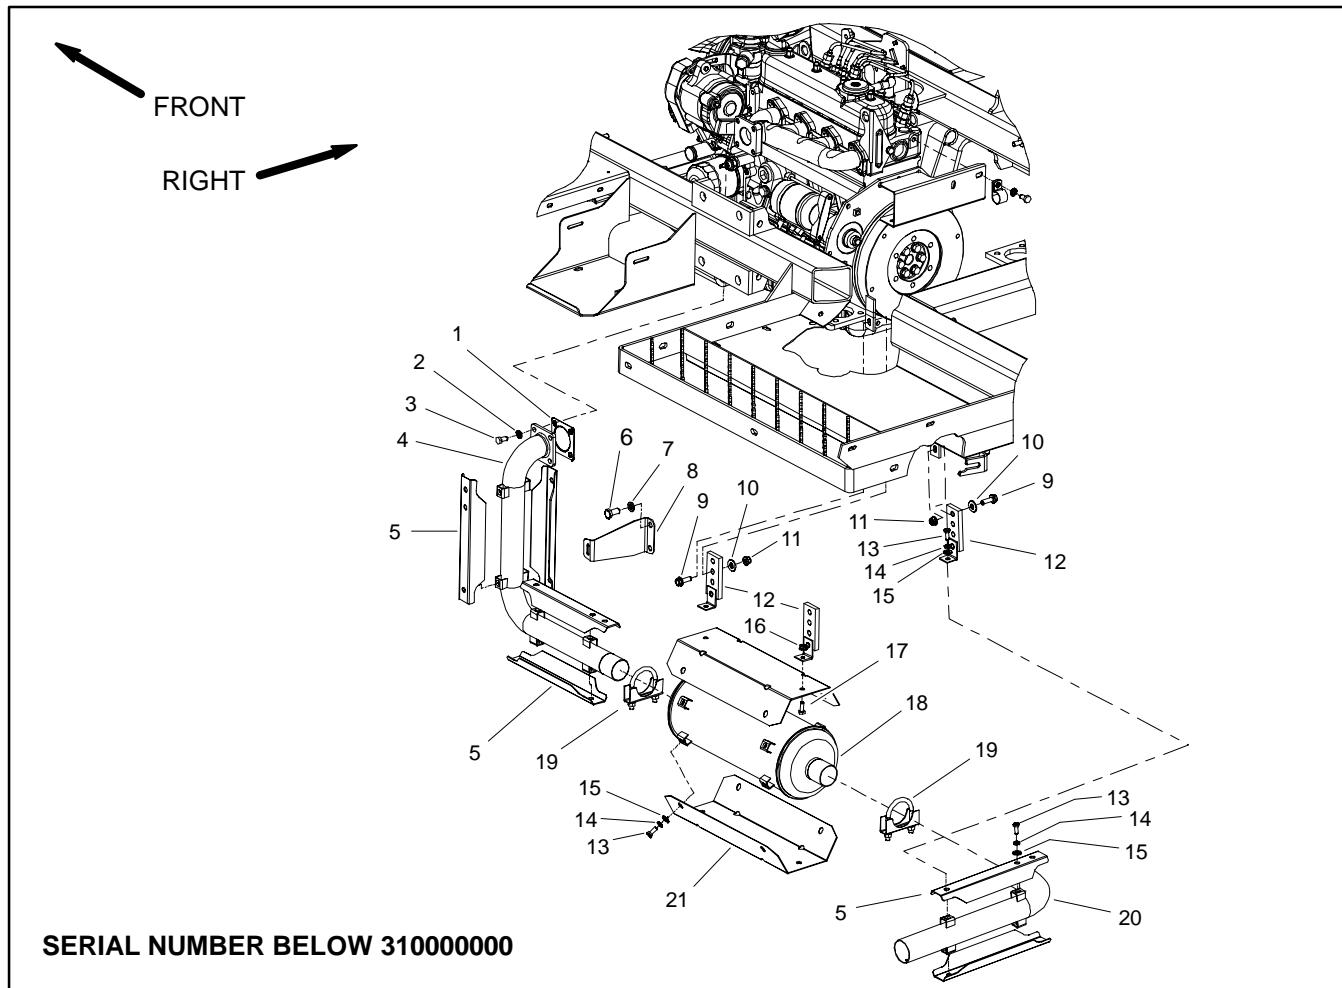

Figure 6
### Removal (Fig. 6 or 7)
3. Remove exhaust system components as required using Fig. 6 (machines with serial number below 310000000) or Fig. 7 (machines with serial number above 310000000) as a guide. During removal, note location of fasteners in rubber exhaust system hangers so hangers are properly assembled.
## Installation (Fig. 6 or 7)
3. Install all removed exhaust system components using Fig. 6 (machines with serial number below 310000000) or Fig. 7 (machines with serial number above 310000000) as a guide.